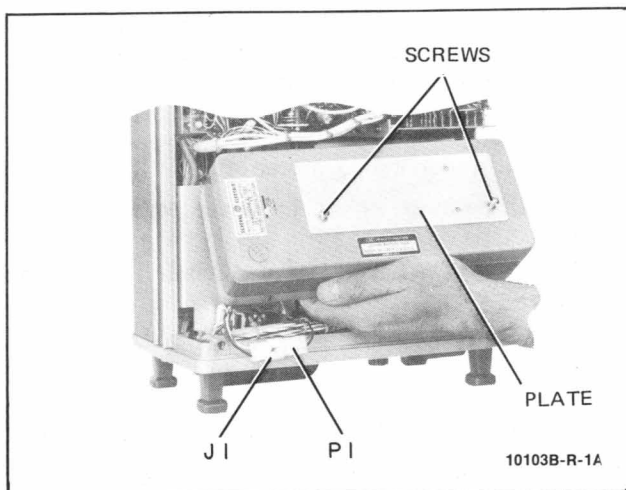

Figure 2-2. Battery Pack Installation
- Place battery pack in instrument as shown in figure 2-2.
- Install two battery screws (figure 2-2).
- Connect P1 to J1 (figure 2-2).